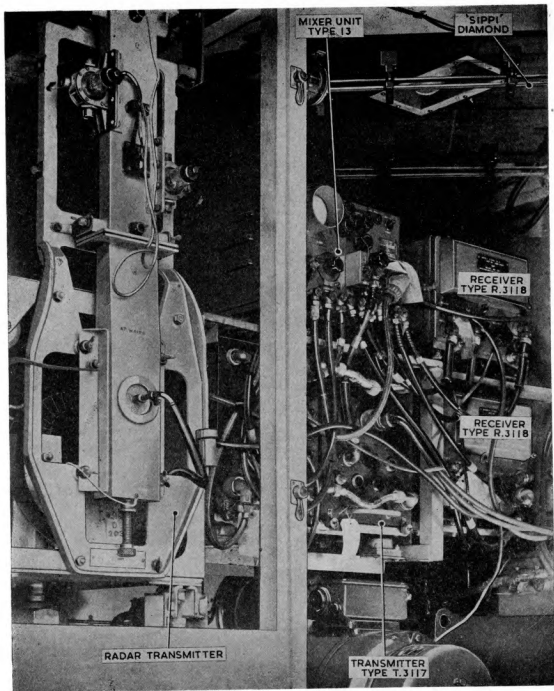

Fig. 18. IFF Mk. 3A : general view in R.V.461C
63. A view of IFF Mk. 3A, in position in the aerial vehicle, is given in fig. 18.